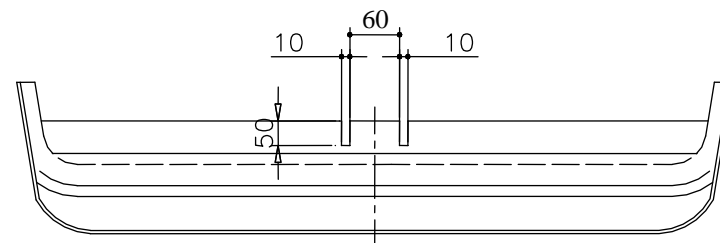

Fig. 2
6. Install the bumper after the previous cut out of its fragment, see fig. 2.